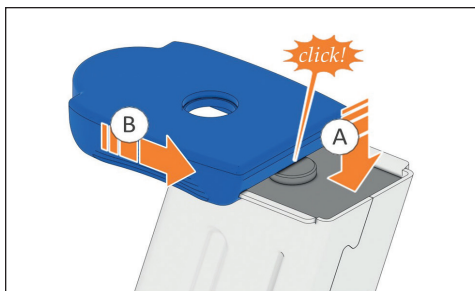

Figure 39 – Insert magazine floor plate
4. Push in magazine locking plate and hold it (A) (Fig. 39).
5. Slide magazine floor plate onto magazine housing (B) from the front until the magazine locking plate engages in the magazine floor plate (Fig. 39). An audible click should be heard.